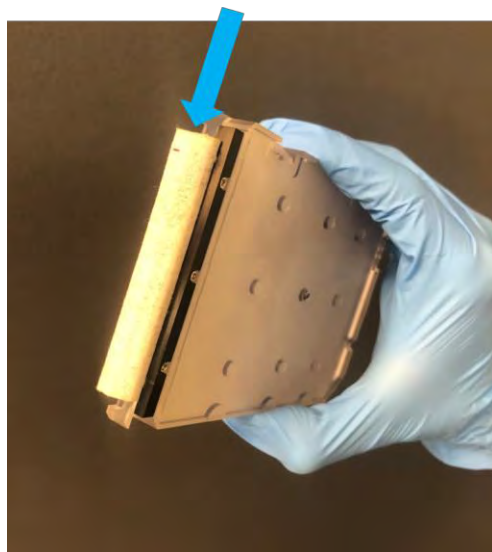

Figure 5.11: Push on the OSC Slider to unlock the slider and remove it from the OSC.
1. To disassemble the OSC Slider so that it can be replaced, push the slider off as shown in Figure 5.11.